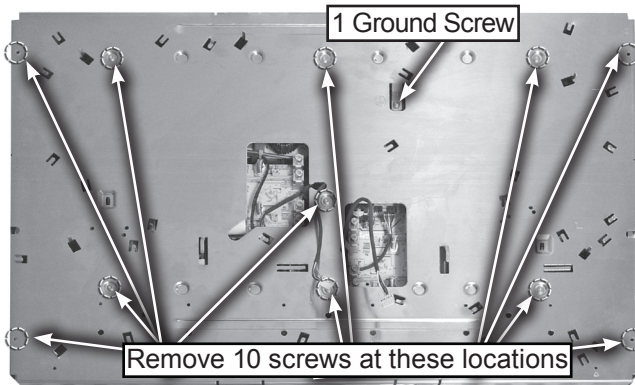

Figure 1
4. Remove 11 screws that mount the aluminum plate, and 1 ground screw. Be sure to replace the ground screw when reassembling, see figure 1.